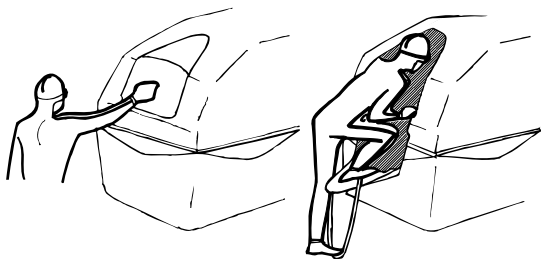

Fig. 1: Opening the hatch and boarding on the vessel's deck
1.2.1 BOARDING ON VESSEL'S DECK. (FIG. 1)